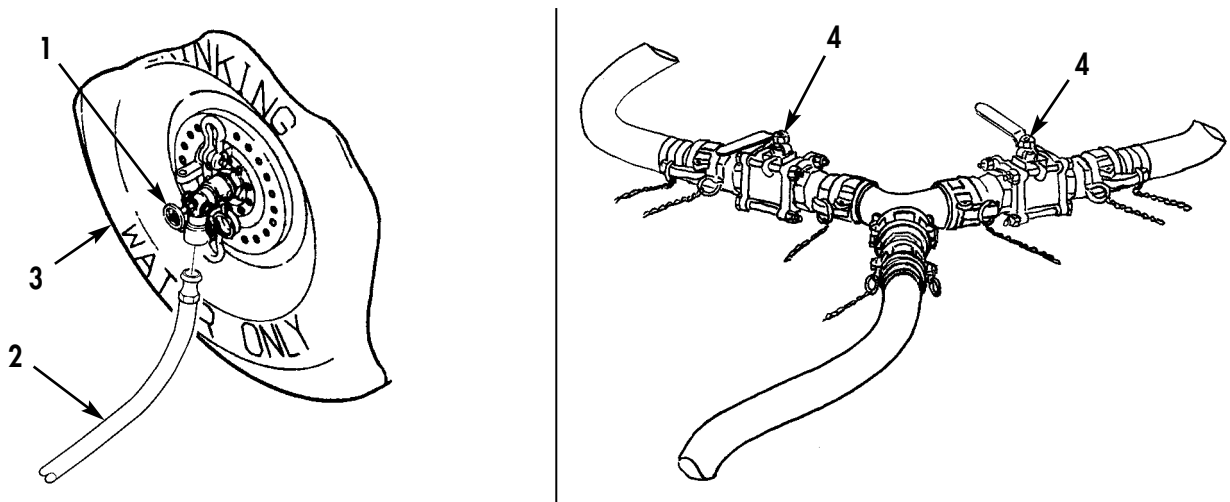

Figure 1. Coupler Valves and Ball Valves.
1. Close coupler valves (Figure 1, Item 1) on two drums (Figure 1, Item 3), and open two ball valves (Figure 1, Item 4). Refer to WP 0004.
3. Disconnect 2 in. (51 mm) DIA x 10 ft (3 m) long suction hose assembly (Figure 1, Item 2) from coupler valve (Figure 1, Item 1) on two drums (Figure 1, Item 3), and install dust cap on coupling end of each hose assembly (Figure 1, Item 2).